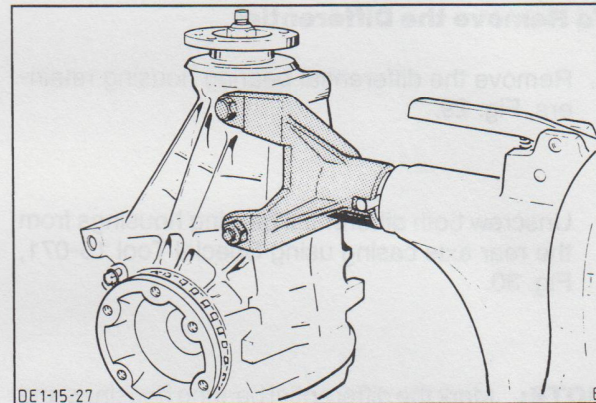

Fig. 27. Rear axle casing secured to assembly stand using mounting bracket 15-070.
1. Secure mounting bracket 15-070 to the rear axle casing and mount the rear axle assembly on a stand, Fig. 27.